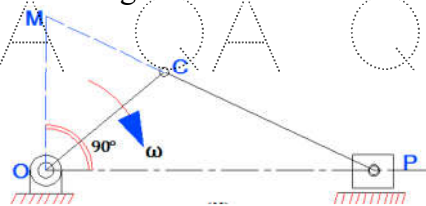

Fig 1
- d) The Fig.1 given below shows a geometric construction for slider crank mechanism.